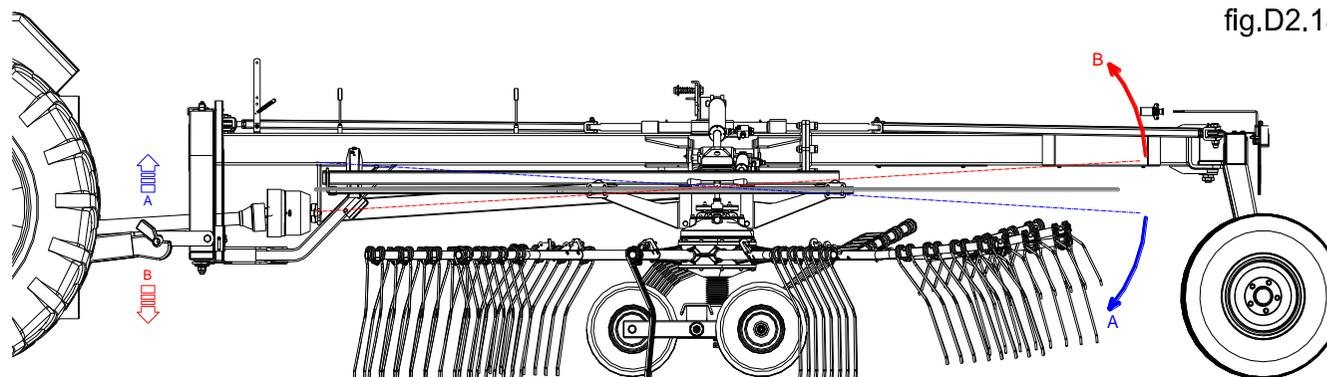

fig.D2.18
Set the longitudinal angle to parallel by raising (A) or lowering (B) the tractor's hydraulic lift. Thus, moving the lift controls in the cabin creates the effect shown in fig.D2.18.